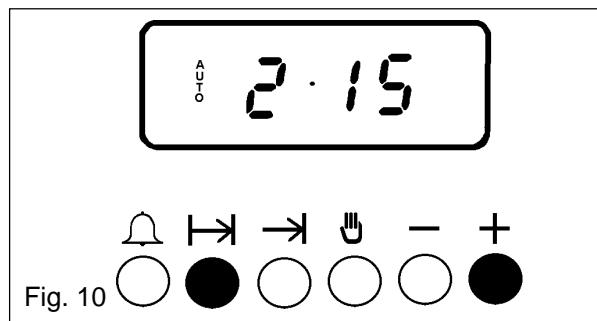

Fig. 10
- iii) To set the length of cooking time, press the cooking hours button (→), while holding it down, depress the increase control (+) until the required length of cooking time is displayed, e.g. 2 hrs 15 mins as Fig. 10. Depress the decrease control (-) if necessary.